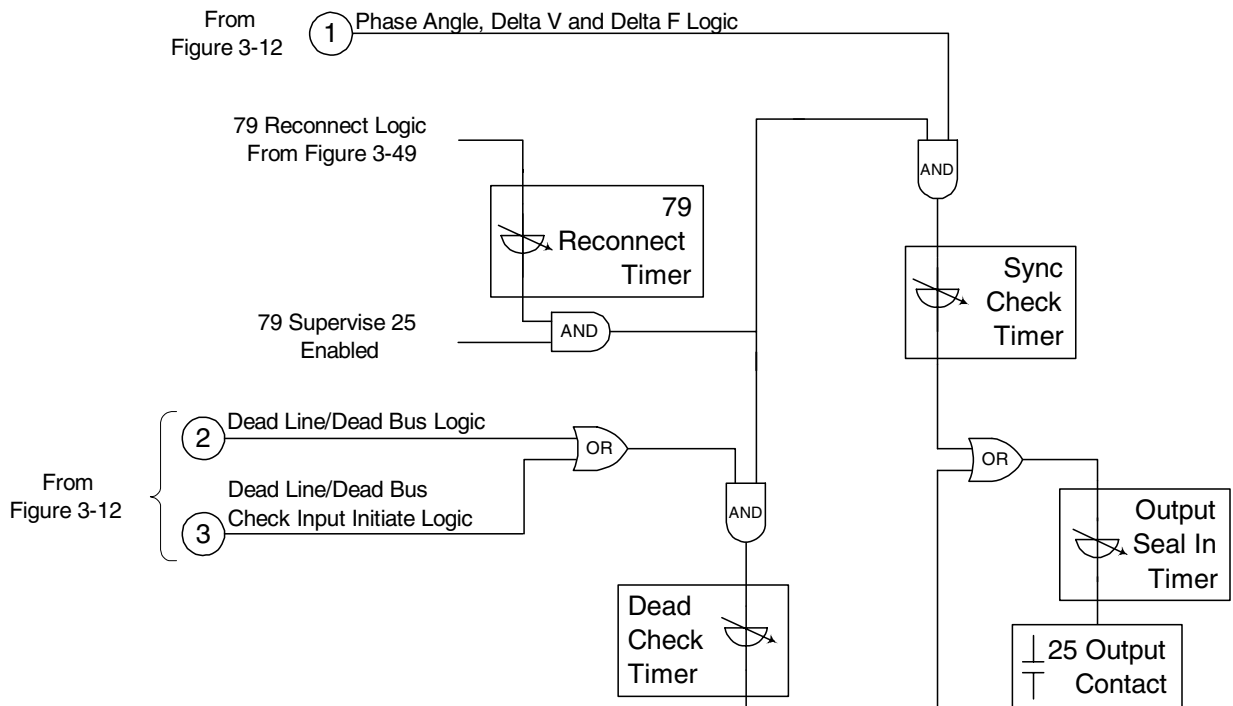

Figure 3-13 Function 25/79 Logic Diagrams
The Sync Check function (25) can be supervised by the reconnect enable (79) function. The “79 supervise 25” setting (Figure 3-13), if enabled, will hold both the dead check and sync check timers reset until the 79 timer expires.